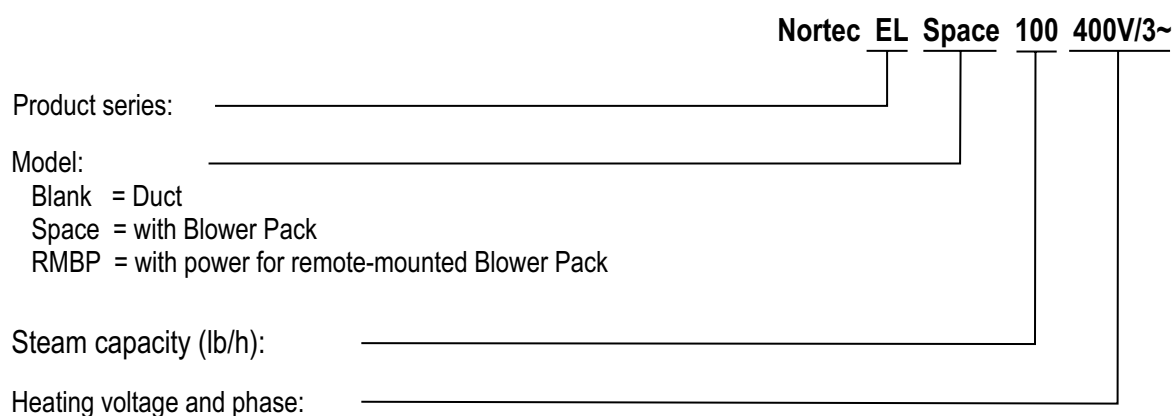
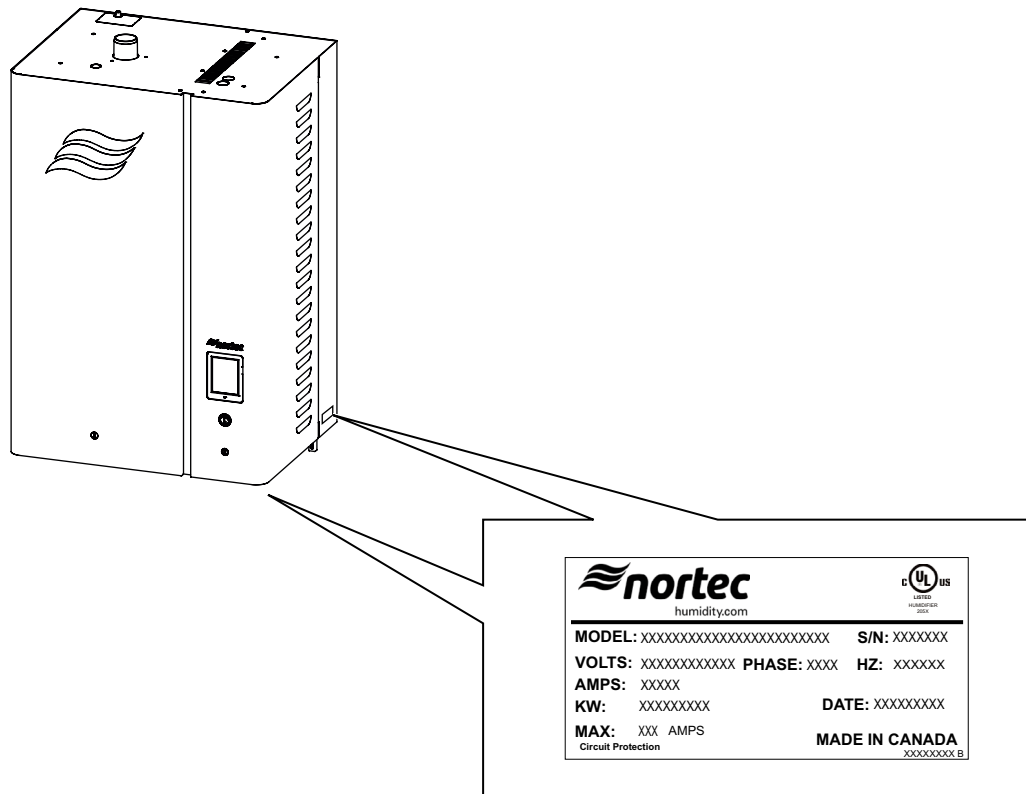

Figure 2: Model Breakdown
Figure 3: Nortec EL Steam Humidifier Specification Label
- Verify the model type on the rating label to ensure that it is suitable for your installation. Refer to Figure 3 on page 9.
The specification label on the side (and the underside) of the Nortec EL steam humidifier shows its model number, serial number and ratings – refer to Figure 3 on page 9. The breakdown of the model number is shown in Figure 2. For other details of the specification label refer to the Operation and Maintenance Manual.